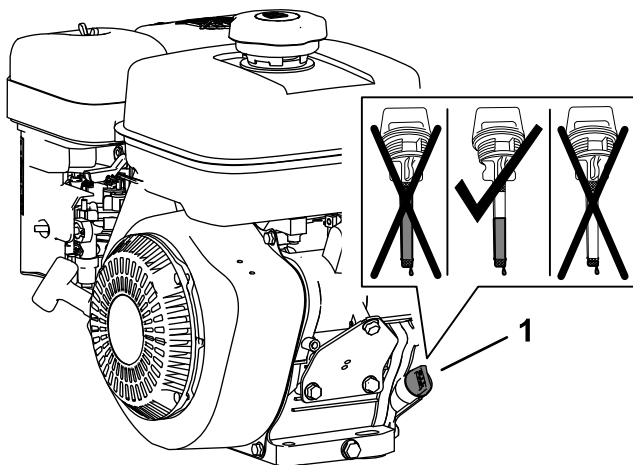

Figure 15
1. Remove the dipstick from the filler neck of the engine and wipe clean the dipstick with a rag (Figure 15).
2. Slowly pour 0.6 L (20 fl oz) of the specified oil into the crank case of the engine through the filler neck (Figure 15).
4. Remove the dipstick from the filler neck and look at the oil level in the dipstick (Figure 15).
Note: The engine oil level must cover between the hatch marked areas on the dipstick (Figure 15).
6. Hand tighten the dipstick into the filler neck (Figure 15).